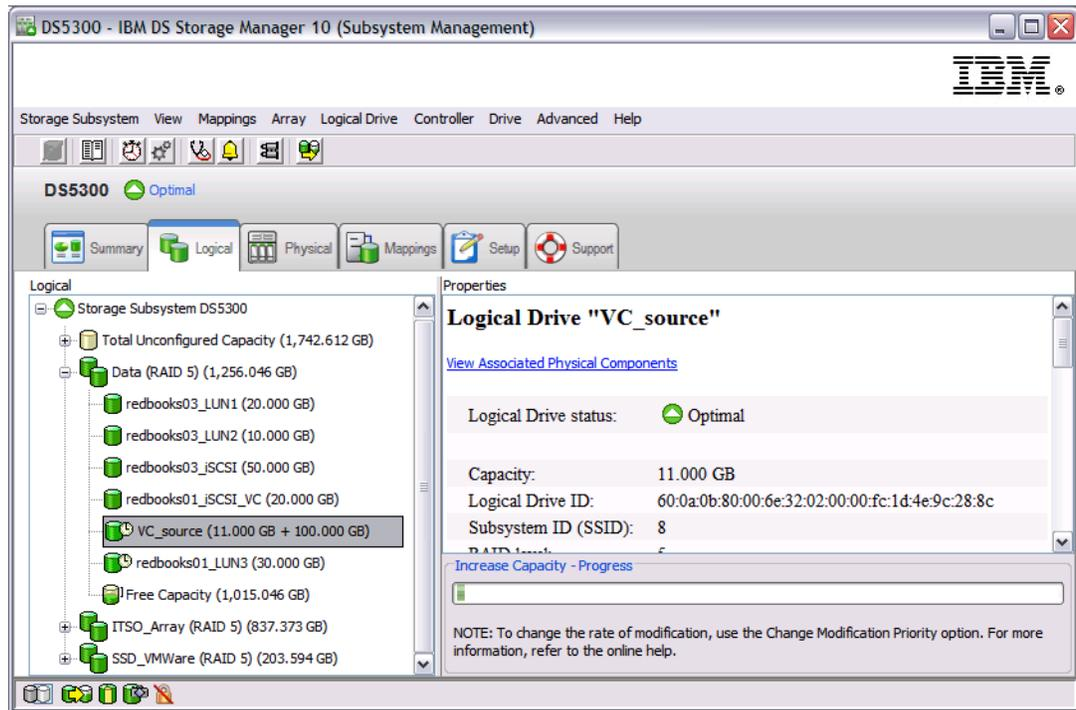

Figure 3-22 Increase logical drive progress bar
3. Click **Yes** on the confirmation dialog to increase the logical drive capacity. You can see the operation progress bar just by clicking the volume, as shown Figure 3-22.